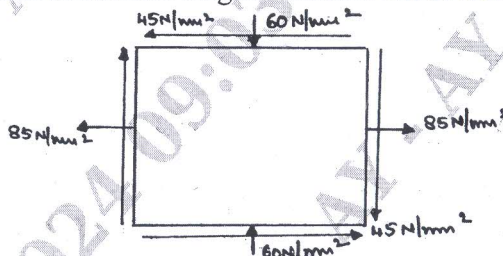

Fig.Q2(b)
- For the state of stress shown in Fig.Q2(b), determine the principal stresses and locate principal planes. Also obtain maximum tangential stress and locate corresponding planes.